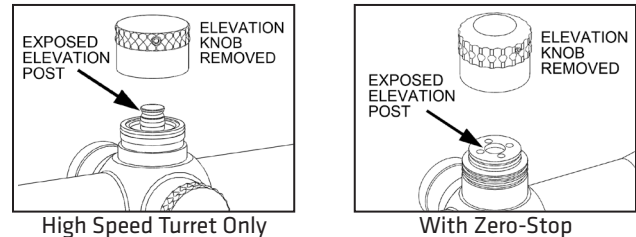

Figure 1.
1. Adjust the elevation knob to the highest setting, then remove the Nightforce™ elevation knob to expose the elevation adjustment post. Figure 1.